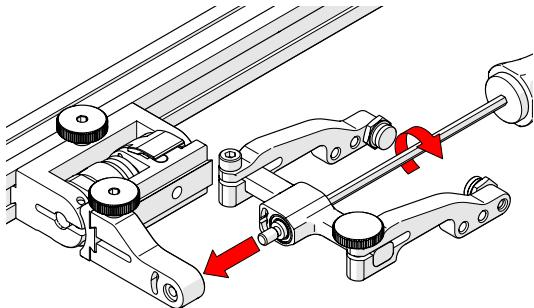

*Fig. 215 - Attach arms and move buttons*
4. Place the pivot buttons on the inside of the probe holder arms (*Fig. 215*) using a 3/8 in wrench (*Fig. 2*). Slide the arms onto the yoke and tighten the probe holder arm adjustment knob and the arm clamp screw.